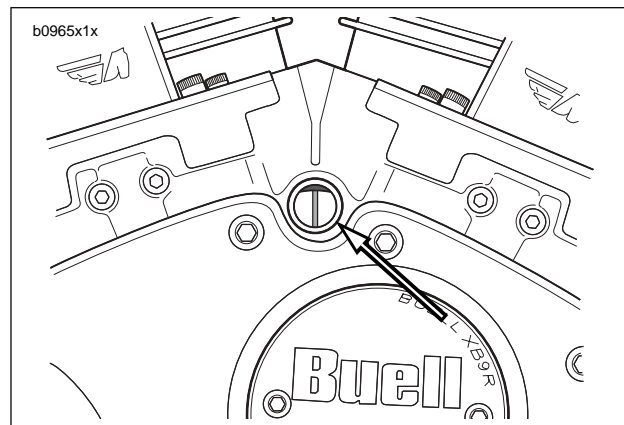

Figure 1-52. Correct Timing
11. See Figure 1-52. If the static timing is correct, the screen will switch to HIGH - 5 volts at the precise moment the timing mark exactly centers in the inspection window.